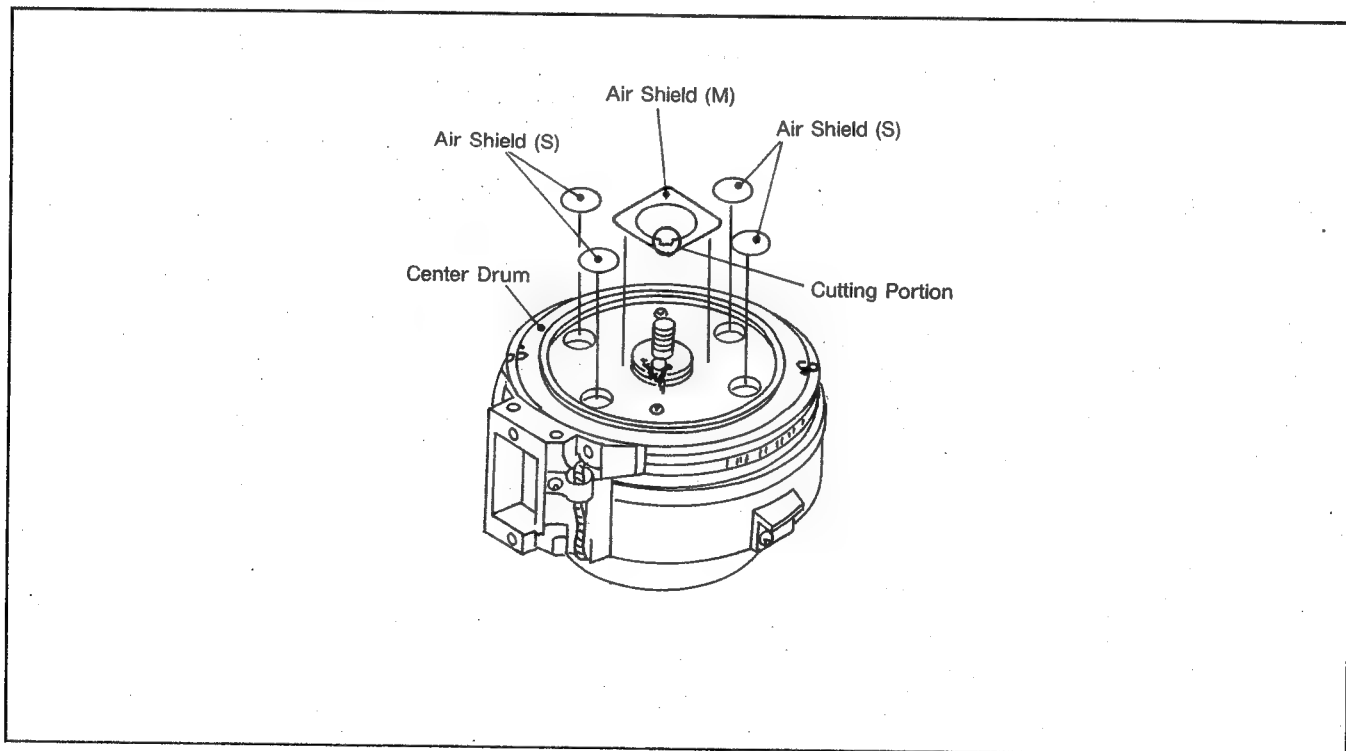

Fig. 7-9-1
- 7-9. Put 4 pcs of air shield(S) and 1 pc of air shield (M) on the Center Drum Unit as shown in figure 7-9-1.